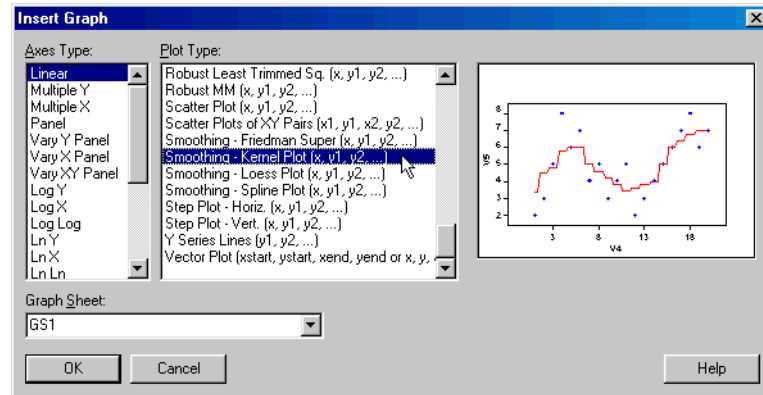

Figure 3.13: The *Insert Graph* dialog.
6. In the **Plot Type** list box, select **Smoothing - Kernel Plot** and click **OK**, as shown in Figure 3.13.